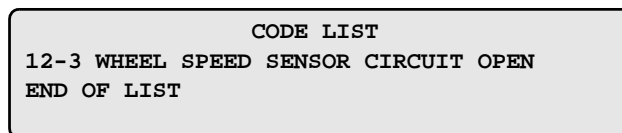

Figure 8-25 Typical ABS codes message
3. The Code List screen appears (Figure 8-25)